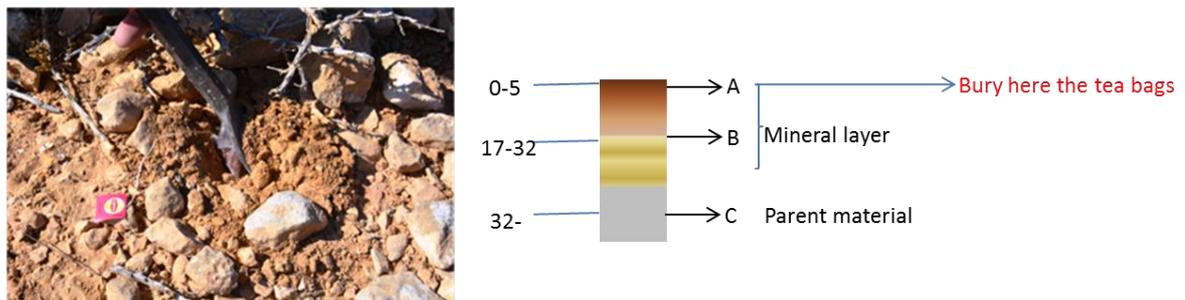

Fig.3: Positioning of tea bags in the soil (organic vs mineral soil layer)
- Install 5 teabags of Green tea and 5 tea bags of Rooibos tea in each replicate area into the 0-5 cm depth (Fig.3). At all 3 sites along the climosequence the soil layer shall be the same.